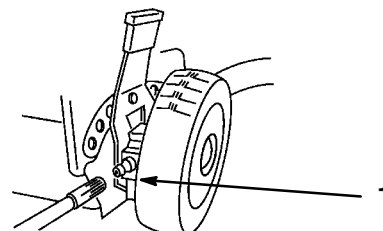

Figure 28
1. Wipe the grease fittings on the rear wheel height adjustment levers with a clean rag (Fig. 28).